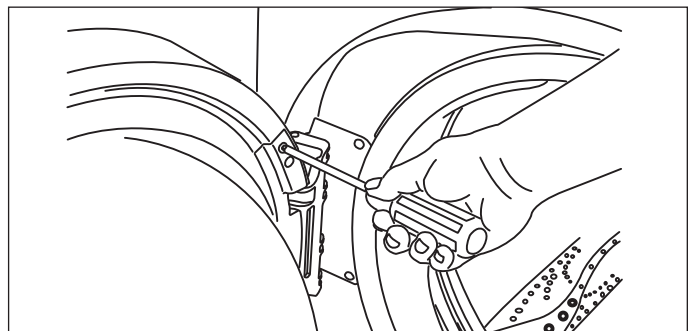

Figure 2-19.
2. Remove 4 long, course-thread, counter-sunk hinge screws from door. (See Figure 2-19)